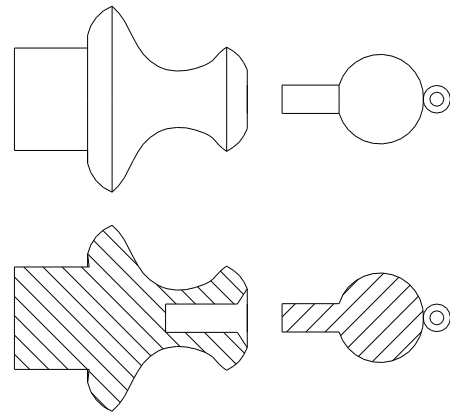

Figure 8: Suggested Top Finial Shape
- Finish turn the top finial. (Suggested shape is shown in Figure 8.)